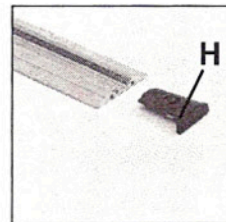
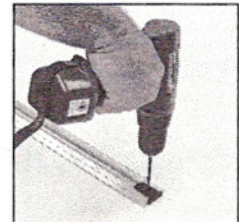
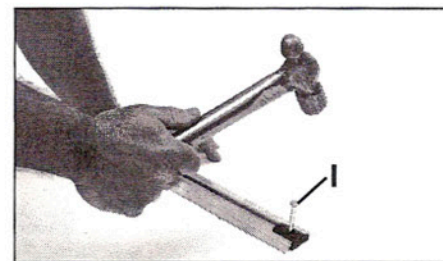

figure 3
figure 3a
figure 3b
Slide one end stop (H) into track end as shown in *figure 3*. Use 1/4" drill bit provided to drill straight down into and through end stop and track (approx. 2") into floor as shown in *figure 3a*. Now, hammer securely and seat anchor bolt (I) until flush as shown in *figure 3b*. Repeat on same end of opposite track that is running parallel.